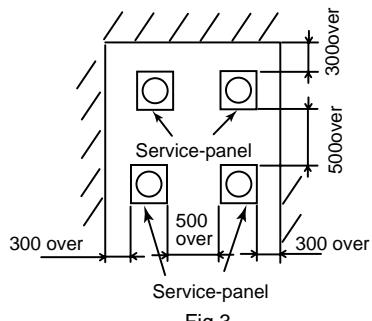

Fig 3
### (2) Relation of unit when many set up unit. (Fig 3,4)